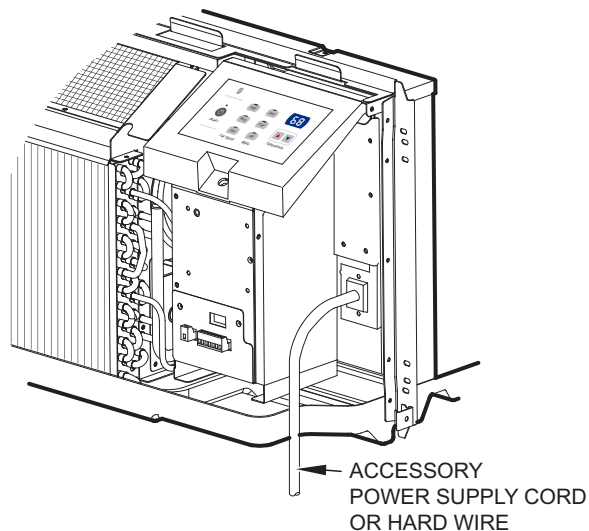

Figure E.4.2 (Power Connection)
1. Follow steps 4-6 in Section E.4 and refer to Figure E.4.2.
1. Connect accessory power supply cord or hard wire connector to unit connector. See Figure E.4.2.